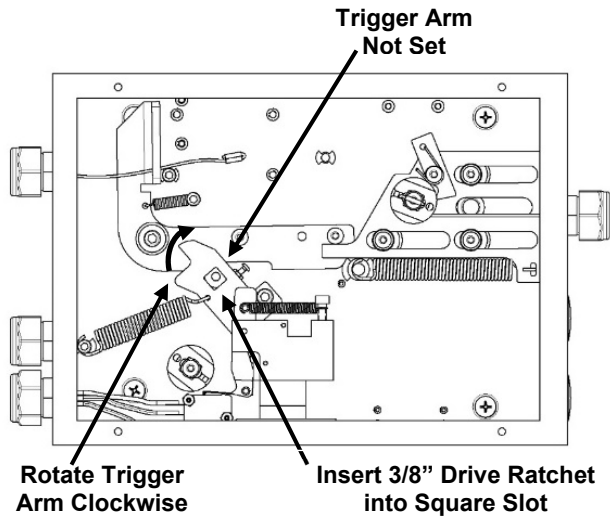

Figure 4-37.
- Rotate the Trigger Arm clockwise until the Locking Lever slides over the Trigger Arm and drops into the SET position. See Figure 4-37